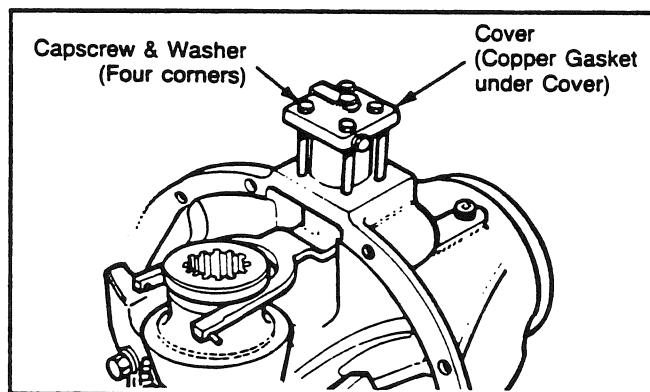

Fig. 9
2. Remove the sensor switch. Remove the four bolts and washers retaining the cover. Remove the cover and copper gasket (see Fig. 9). Remove the tube and piston. Remove and discard the O ring from the piston. Remove the shifter shaft from the fork. Remove the shifter shaft spring and flat washer. Remove the fork.